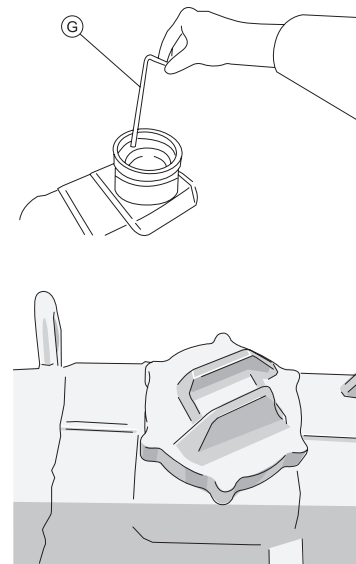

Figure 2-52
Remove the fuel tank cap, and pull out the dipstick (G) (as shown in Figure 2-52) to check the oil level.